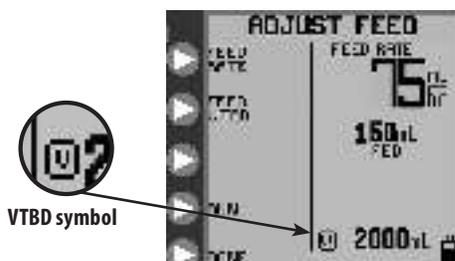
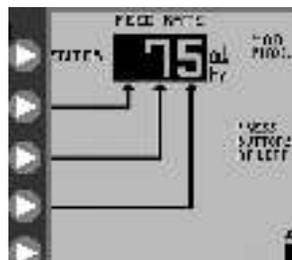
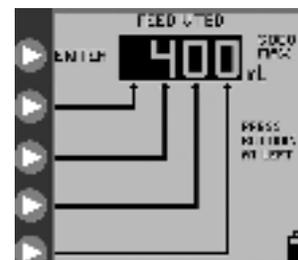

Figure 11A. **ADJUST FEED** menu.
Figure 11B. Setting the Feed Rate.
Figure 11C. Setting the Feed Volume to Be Delivered.
For **CONTINUOUS** feeding mode, the **ADJUST FEED** option is available in the opening menus (Figure 7A for feed-only sets or Figure 7B for feed & flush sets). Select this option to program the feeding parameters from the **ADJUST FEED** screen, Figure 11A.
Press ► **FEED RATE** in Figure 11A to define the rate of delivery. Press the ► buttons in Figure 11B to program the rate from 1 to 400 in increments of 1 mL/hr. Press ► **ENTER** (top button) to exit the menu.
Press ► **FEED VTBD** in Figure 11A to define the Volume To Be Delivered. Press the ► buttons in Figure 11C to program the volume from 1 to 3000 mL in increments of 1 mL. Press ► **ENTER** (top button) to exit the menu. If the **FEED VTBD** is set to zero, the pump will run until the supply is exhausted.
NOTE: When a **FEED VTBD** is set, the remaining volume to be delivered (remaining VTBD) will be displayed next to the  icon on the lower right-hand portion of the screen (Figure 11A). If the **FEED VTBD** is reprogrammed during a feeding, from **HOLDING** mode, the pump will restart the feeding and deliver the entire volume of the new VTBD setting.
- **ADJUST FEED** screen, continuous mode (Figure 11A)